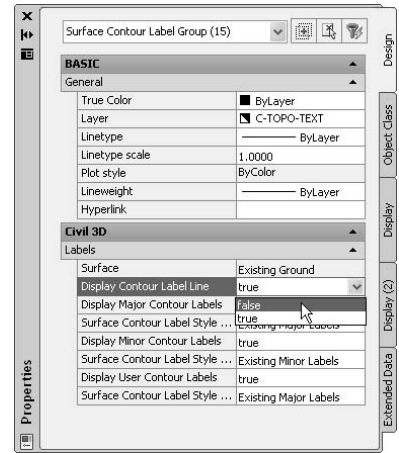

Figure 7.15
12. Within the Properties palette, change the Display Contour Label Line value to False as shown in Figure 7.15. Close the palette if you like.